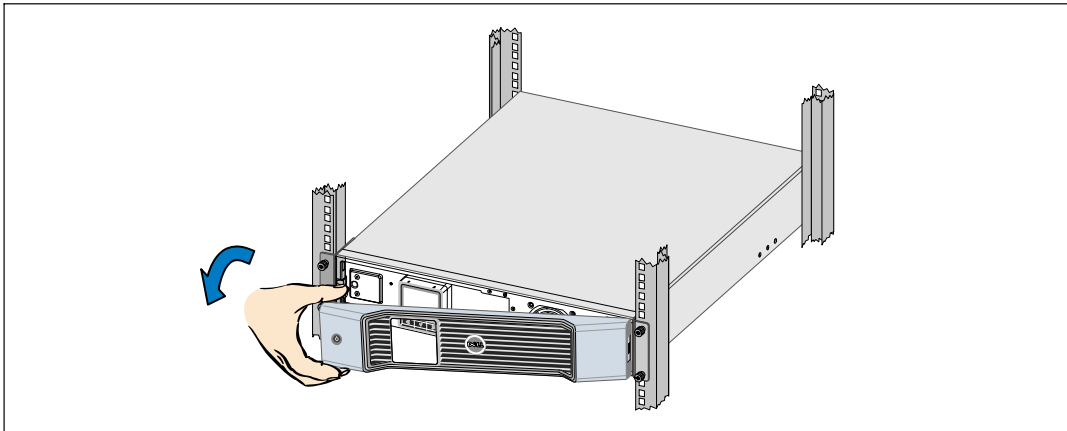

Figure 34. Removing the UPS Front Cover
- 3 Remove the UPS front cover (see Figure 34).